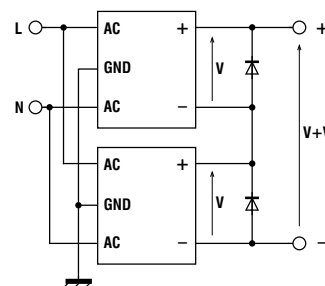

figure 2
**CONNECTION IN SERIES** of two power supply units: this is possible by connecting a diode in anti-parallel to the output of each power supply unit, dimensioned to withstand the max. current of the power supply unit (see Figure 2).